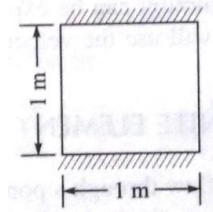

Figure 6
7. For the dimensional body shown in figure 6, determine the temperature distribution. Let the left and right ends have constant temperatures of 200°C and 100°C respectively. Take $k = 5 \text{ W/cm}^{\circ}\text{C}$. The body is insulated along the top and bottom. [15]